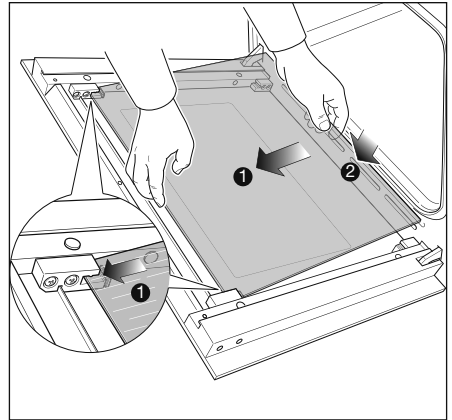
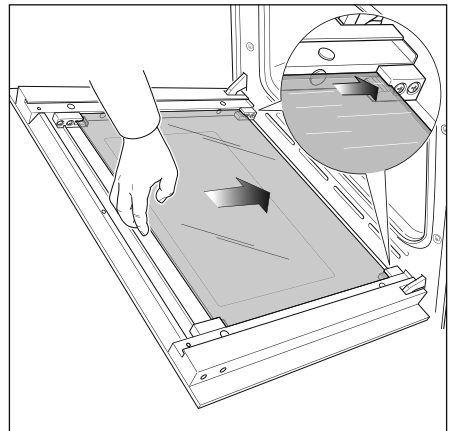

Fig.37b
Fig.37c
- Gently insert the top edge of the pane into the top clamps (arrow 1 in Fig. 37b), then lower the pane and insert the bottom edge into the bottom clamps (arrow 2 in Fig. 37b); and then slide the pane into position (Fig. 37c).